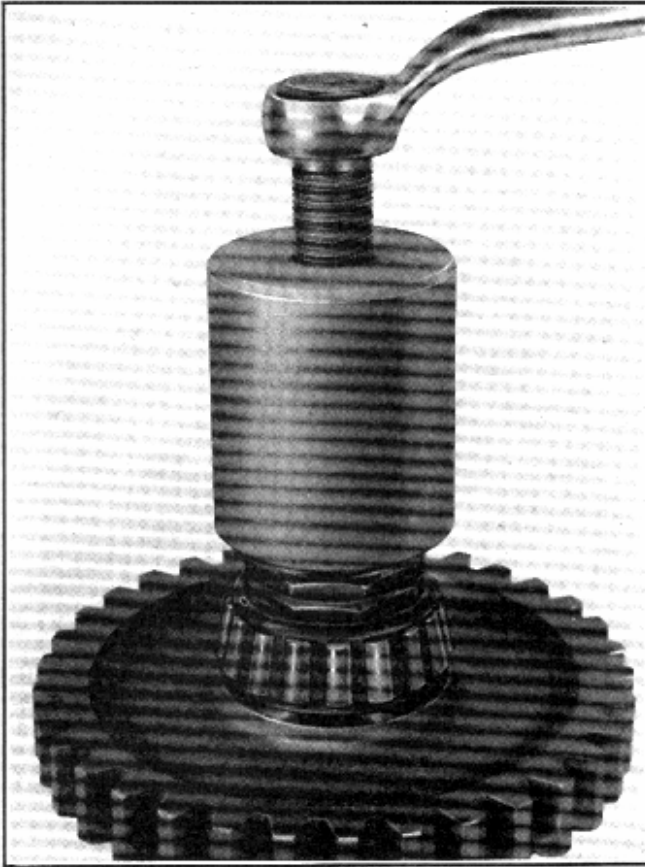

Fig. 19—Removing Speedometer Gear, Tool No. J-1737
2. Using puller J-1737 as illustrated in Fig. 19 pull the speedometer gear (93) from the idler shaft. Using a narrow punch, tap the woodruff key from the shaft.